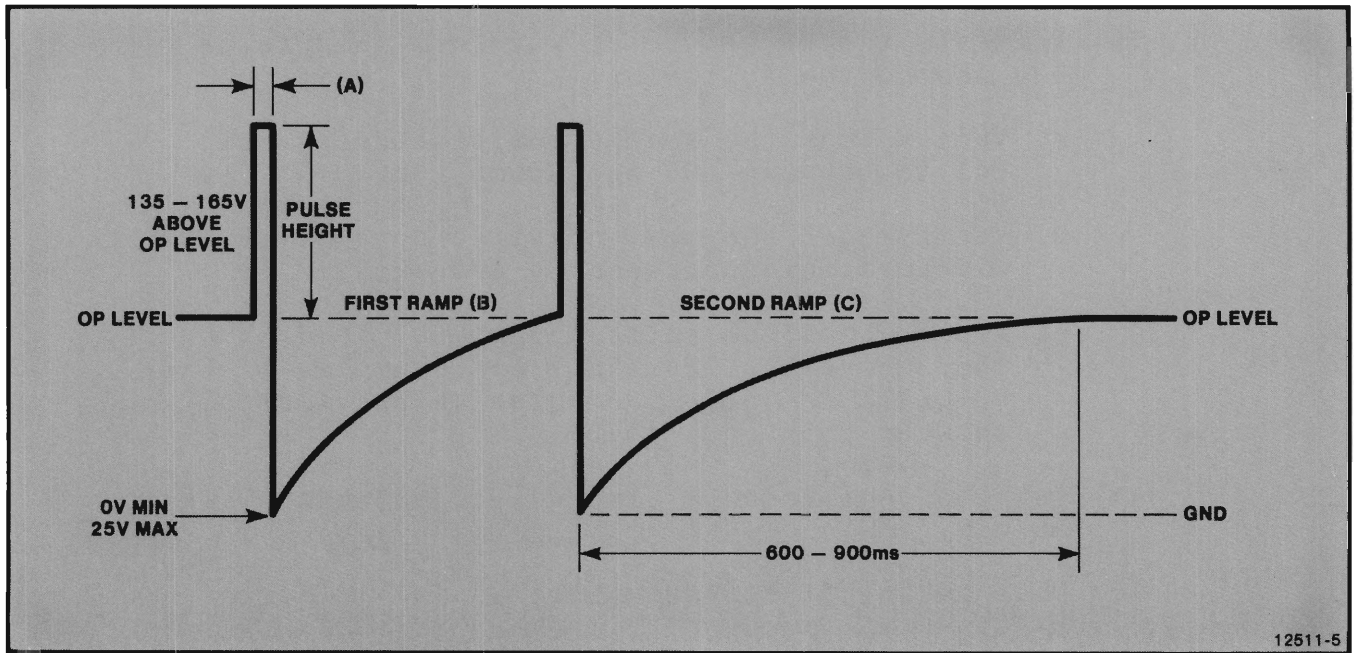
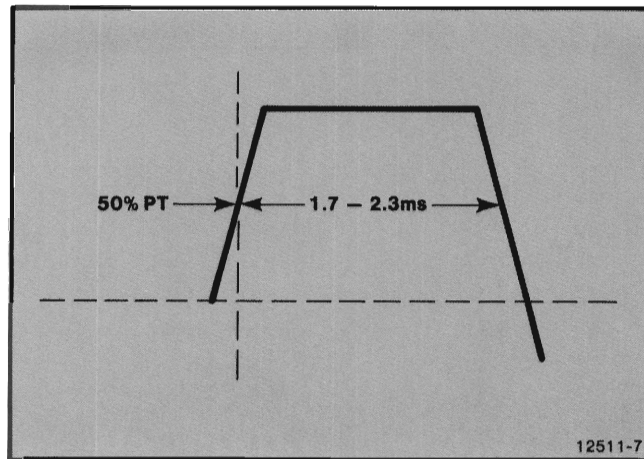

Figure 5-12. Target Erase Waveform.
Figure 5-14. Target Erase Pulse Waveform.
10. Refer to the target erase waveform (Figure 5-12) and do the following:
12. Observe the first ramp shown as (b) in Figure 5-12.
16. Observe the pulse waveform shown in Figure 5-14. This waveform is also indicated as (a) in Figure 5-12.